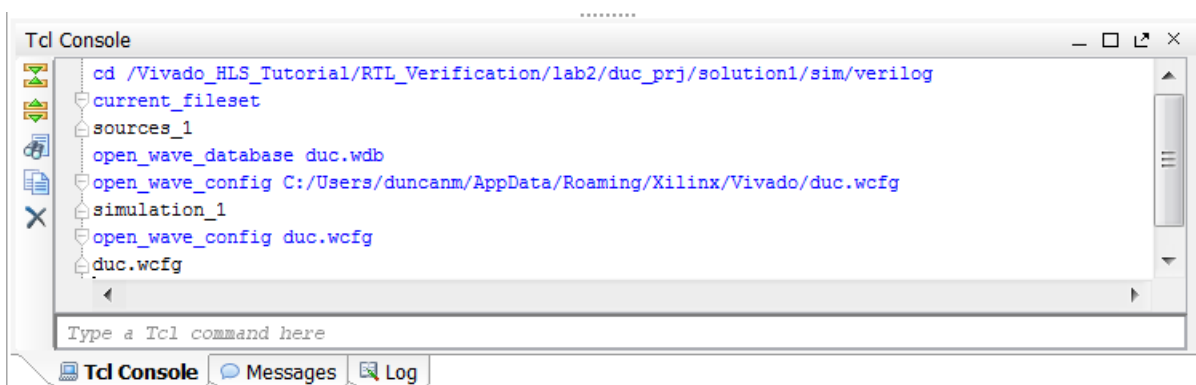

Figure 177: Opening the Trace File in Vivado
2. In the Vivado Tcl Console, enter the following commands, as shown in Figure 177. This example assumes the top-level tutorial directory is C:\Vivado_HLS_Tutorial: